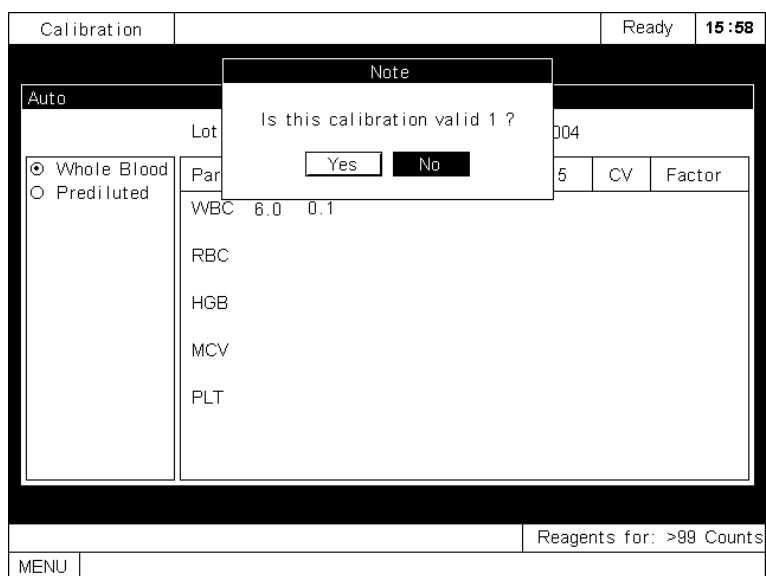

Figure 5-11 The dialog box to confirm the calibration is valid
- If the obtained result is valid, a dialog box will pop up to ask you confirm the calibration, as Figure 5-11 shows.